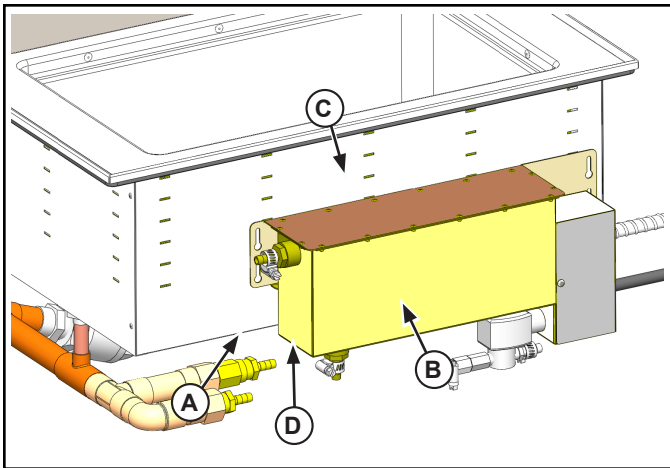

Figure 2. Water Reservoir and Well Assembly.
5. **For installation with Rectangular Drop-In** For initial setup, mount the Auto-Fill main body water reservoir (B) level to the bottom of any full size Vollrath hot well (C) unit outer skin. Mark and use appropriate length fasteners to mount reservoir (B) assembly in a level position (D) to the bottom of the well assembly (A). See Figure 2.
6. **For use with Round Soup Drop-In:** Install the reservoir (B) 5/8" (15 mm) below the bottom of a Vollrath round soup drop in unit outer skin. See Figure 2.